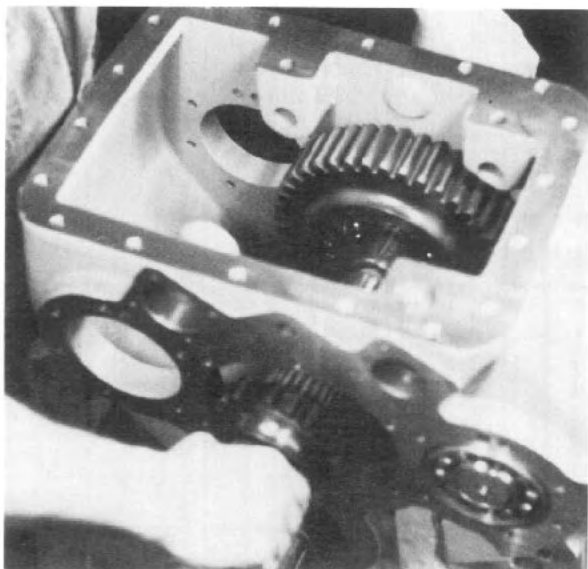

Fig. 23
5. Insert the shaft through the large opening on the back of the case. Align with clutch splines and engage end of shaft in alignment tool. Screw tool and shaft together (See Fig. 23 and 24). Pull shaft through bearings. Remove alignment tool.